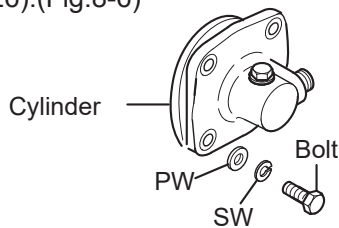

Fig.8-6
- a. Remove 4 bolts (27), then remove the cylinder (26). (Fig.8-6)